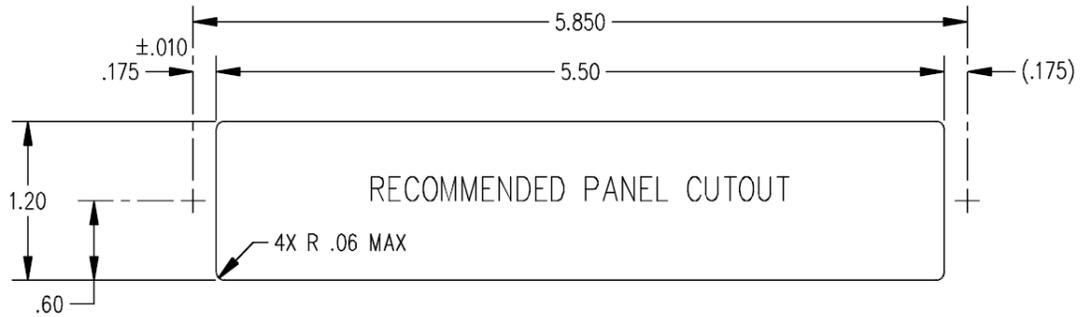
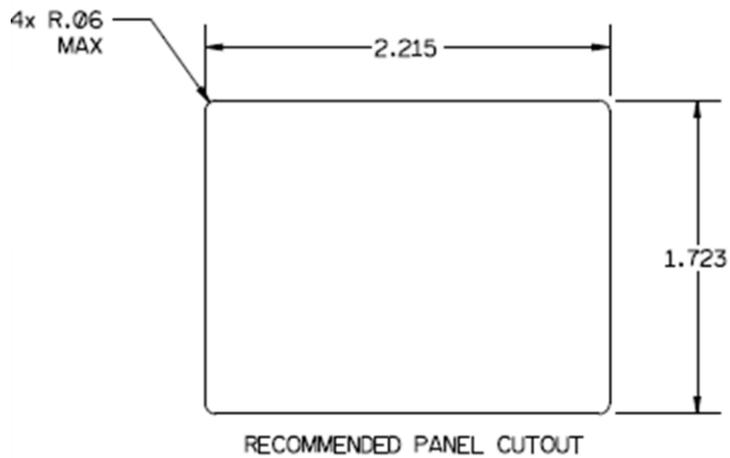

Figure 20 – A1235 Panel Cutout Dimensions
Figure 21 – CB-2 Panel Cutout Dimensions
- A. Install Climate Controller in instrument panel where space permits. See Figure 20 for A1235 Controller or Figure 21 for CB-2 Controller below for cutout dimensions.